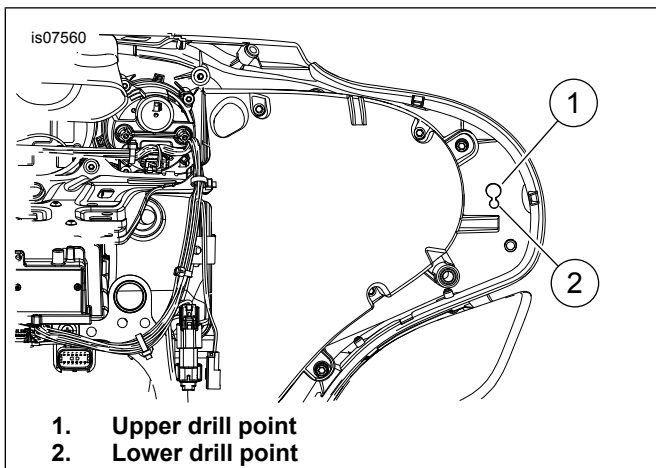

Figure 1. Drill Points (Left Side Shown)
- a. See Figure 1. Locate drill points (1 and 2).
- d. Drill a 29/64 in. hole at drill point (1) with a twist drill bit.
- e. Drill a 9/32 in. hole at drill point (2) with a twist drill bit.